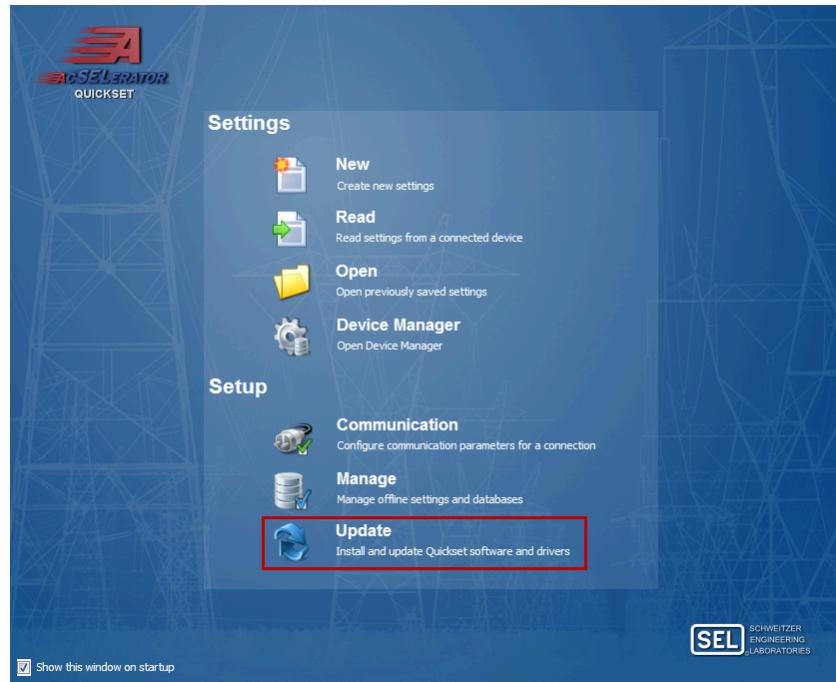

Figure 8.7 Selecting Update in QuickSet
Step 1. From the QuickSet Welcome Screen (see *Figure 8.7*), click **Update** to exit QuickSet and open SEL Compass.